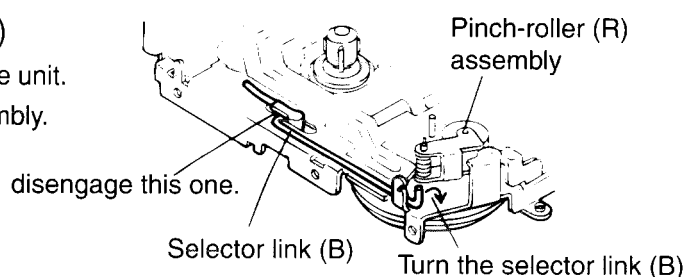

Fig. 9
1. Remove the selector link (B) from the front unit by turning the selector link (B) near the pinch-roller as shown in the figure 9.
2. Remove the four screws (7), (8) retaining the reel base assembly.